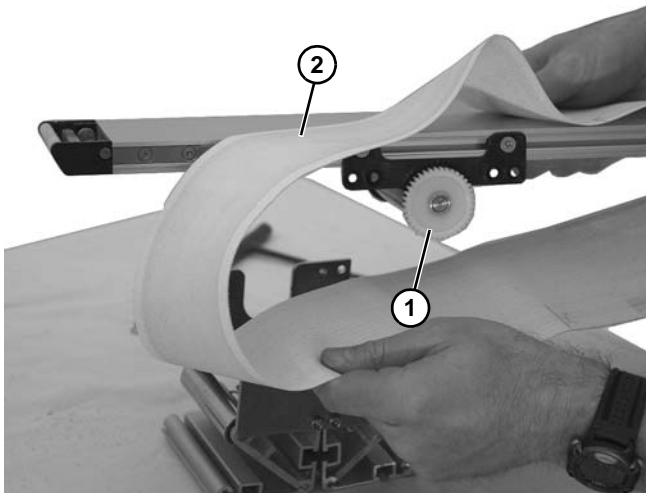

Figure 42
5. Install drive gear (**Figure 42, item 1**) onto shaft.
6. Install belt (**Figure 42, item 2**). See “Conveyor Belt Replacement” on page 11.